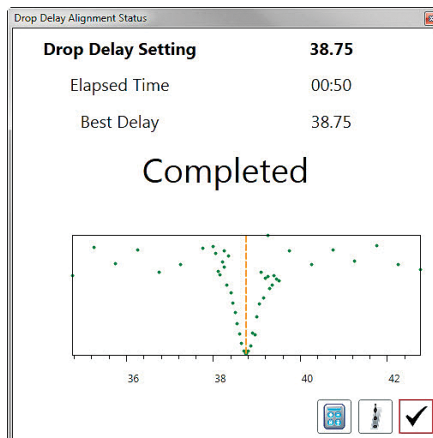

Fig. 3. Drop Delay Alignment Status window with checkmark selected.
5. After the drop delay setting is completed, click the **checkmark** in the Drop Delay Alignment Status window (Figure 3).